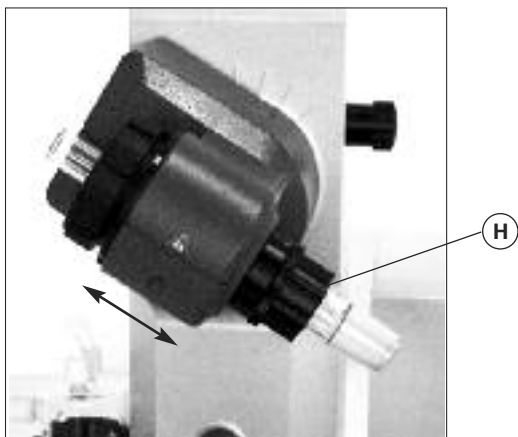

Fig. 10
- ☞ Then lock the locking device by turning it clockwise by 60° (fig. 10).